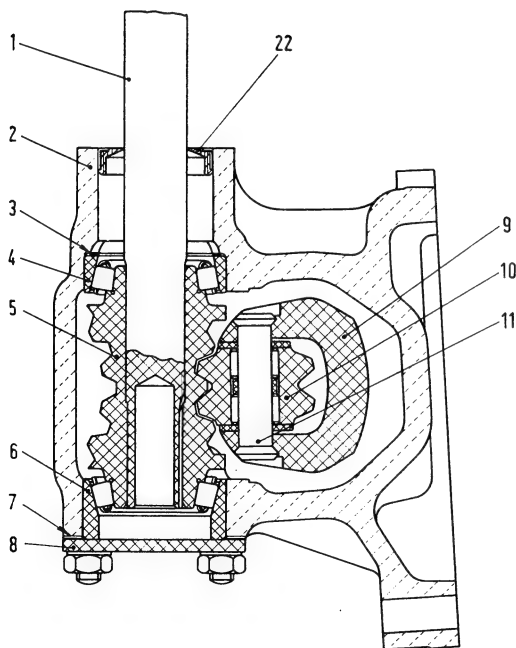

Fig. 144. - Sectional view of the steering gear across the steering column with worm screw.
Position the adjusting shims (3, fig. 144) and drive the worm upper roller bearing cup into the gear housing bore.
Insert the cup of lower roller bearing (6, fig. 144) into the gear housing bore, then install the thrust cover (8) with the prescribed quantity of adjusting shims (7) between cover and housing face.
If during worm-to-roller lash adjustment, roller should prove not to mesh at center of worm, work on worm bearing ring shims (3, fig. 144) and plate shims (7, fig. 144) so to set the worm at center on roller. In this